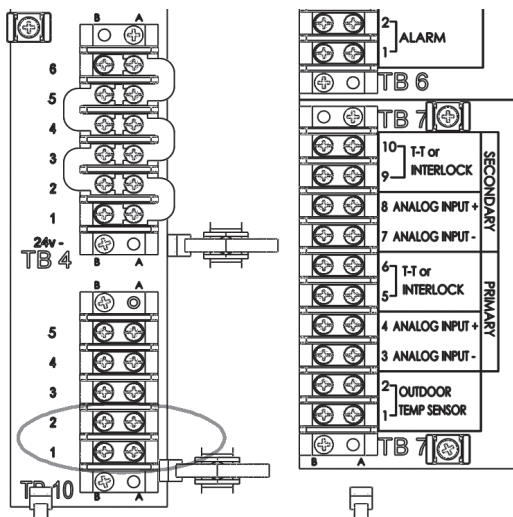

Fig. 78 – Disconnecting an Unused Touch Screen
3. Locate terminal block 10 (TB10). See Fig. 78. Remove the jumper connecting pins 1 and 2 on TB10.